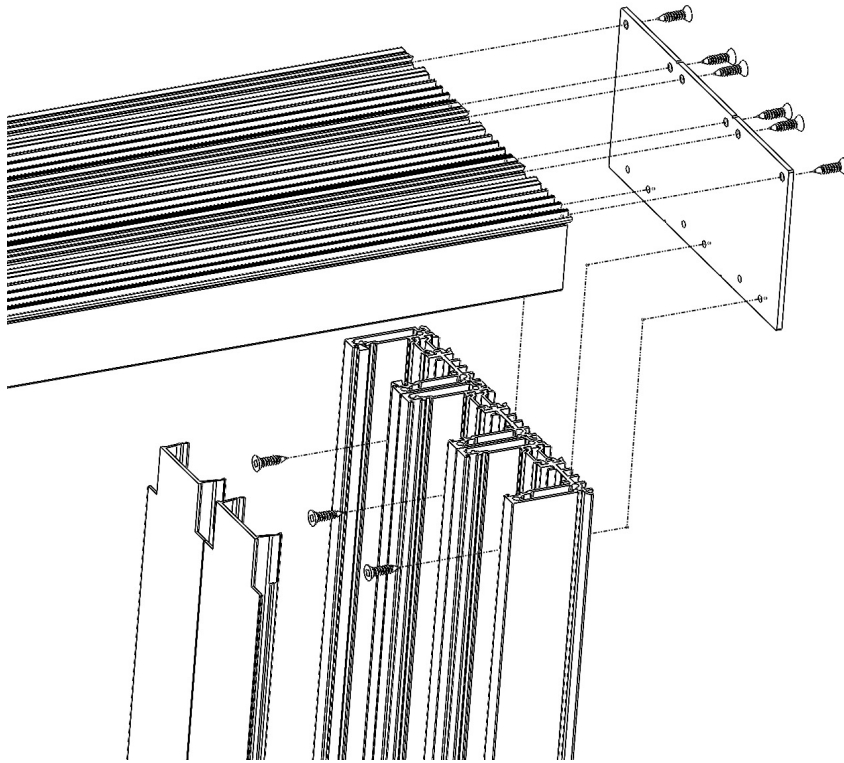

Figure 11
21. Pre-drill the jamb to the end plate assembly holes at each end and as required with a #21 drill bit. Remove the jamb assembly and seal the jamb to the end plate interface at the sill location with Dow 795 sealant. (See Figure 11).